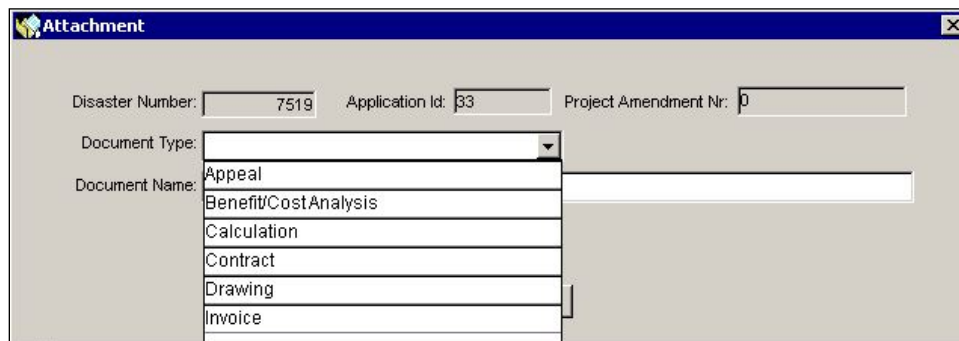

Figure 6-66: Attach Documents Dialog Box
3. On the Document Type data field, click the drop-down arrow to display the different document types (Figure 6-66). Select the correct type.
- a. On the bottom left part of the **Cost Comments** sub-tab, click the NEW button. A new row is displayed with the Comment Date/Time, User and Amendment Number fields already filled in by the system (Figure 6-66).